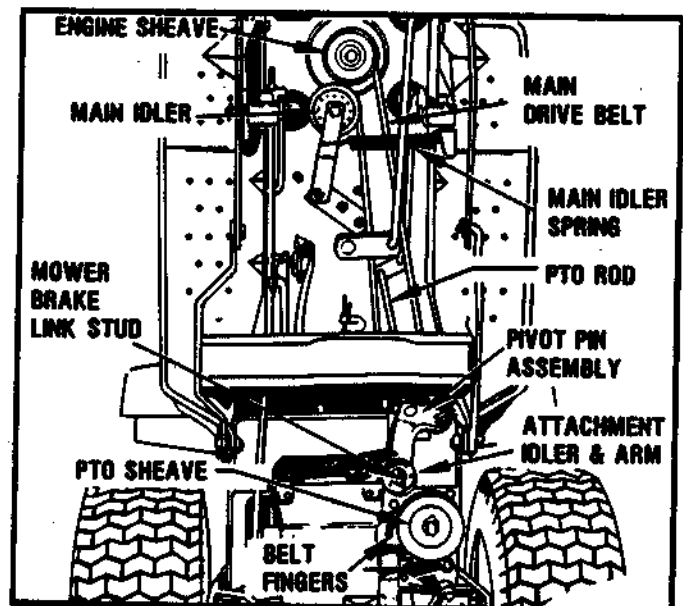

FIGURE 16
1. Lower the mower pan. Remove the hairpin cotter and washer from the stud on the attachment idler (Figure 16) and disconnect the mower brake link.
2. Raise the mower deck. Loosen the belt fingers on the tractor PTO sheave, slide them to one side, and remove the mower belt from this sheave. See Figure 16.
MAIN DRIVE BELT REPLACEMENT — FIGURES 16 & 17
sheave and remove or rotate the belt fingers away from PTO sheave. See Figure 16. Spindle housing should be free to move, allowing belt removal.
7. Remove hairpin and mower brake link from attachment idler. See Figure 16.
8. Disconnect attachment idler spring from anchor on right side of transaxle. (Use vise grips — See Figure 16.)
9. Remove cotter pin, washer and PTO Rod from attachment idler arm. See Figure 16.
14. Remove PTO pivot pin, hairpin and washer. See Figure 16.
16. Disconnect main idler spring from anchor point at left side of frame. (Use vise grips). See Figure 16.
17. Slide rear of belt ahead and between upper traction and lower attachment idler assemblies. See Figure 16.
6. Feed PTO rod between main drive belt lengths and install end through hole in attachment idler arm. See Figure 16.
7. Install washer and cotter pin in PTO Rod - See Figure 16.
10. With the main drive belt in the groove, re-assemble the spindle housing and belt fingers. See Figure 16.
11. Reconnect main idler spring to anchor hole on left side of frame. Be sure main idler is on backside of main drive belt and spring is above steering link. See Figure 16.